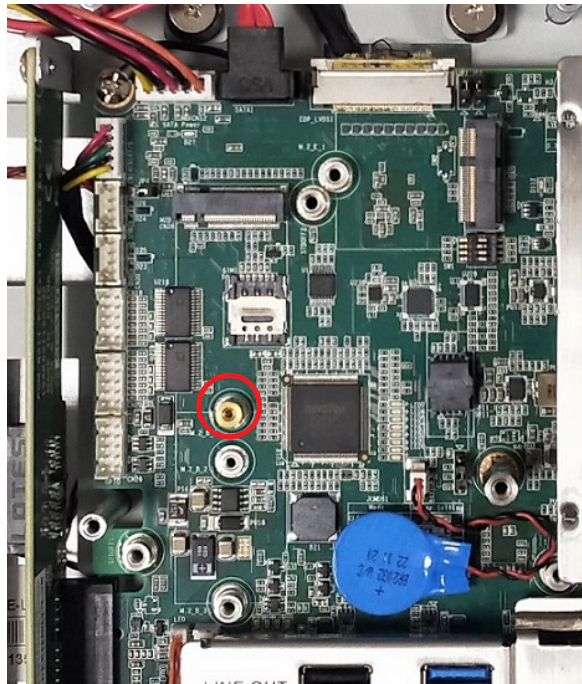

Figure 2.15
3. To install a 22X42 mm size M.2 card, add a copper cylinder screw (see Fig. 2.15) which provided in the accessory box . Then insert the M.2 card into the correct mainboard slot, and affix it in place using one M2.5x3L screws.